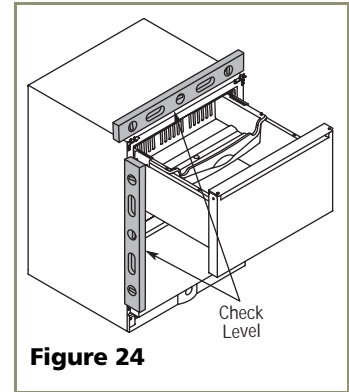

Figure 24
1. Use a level to check the levelness of the unit from front to back and from side to side. Level should be placed along top edge and side edge as shown (see **Figure 24**).